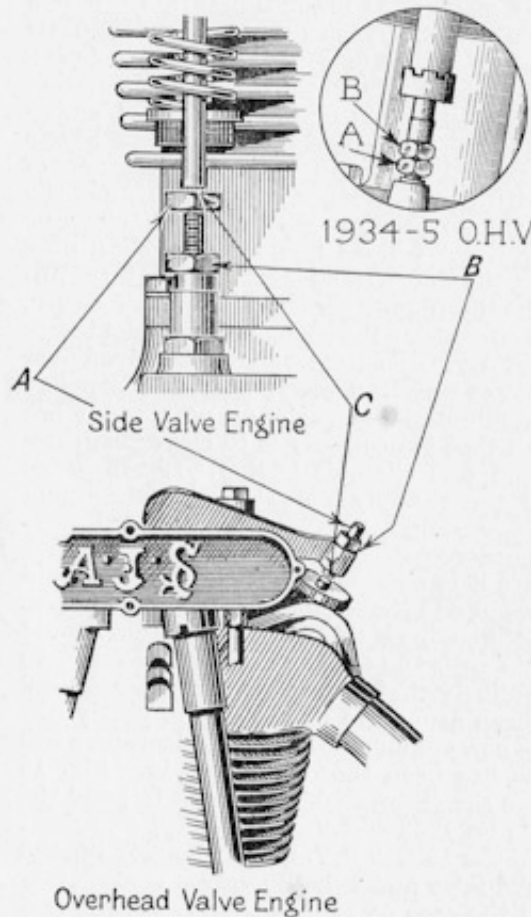

FIG. 16. VALVE CLEARANCE ADJUSTMENT (1932-3)
**Valve Clearances.** In order that the valves shall seat properly at all engine temperatures it is necessary that clearances should exist between the valve stems and the rocker arms or tappet heads, as the case may be, when the engine is warm. The clearance should be checked now and again with the feeler gauge on the magneto spanner, although it is unlikely that adjustment will be required unless the valves have been ground-in or the engine partly dismantled. In the case of a new engine, however, the clearances will increase until the engine has been thoroughly run-in. Fig. 16 illustrates the point where the clearance should exist (C) and the means of adjustment (A) on 1932–5 S.V., O.H.V. type engines. This clearance should, on the 1932–9 S.V. models be .004 in. and .006 in. in the case of the inlet and exhaust valves respectively with a *warm* engine. In the case of 1932–4 O.H.V. models and Models 35/6, 35/8, 35/18, 36/8, 36/18 (mechanical lubrication) the correct inlet and exhaust valve clearances with a *warm* engine are .006 in. and .008 in. respectively. On all other 1935–9 O.H.V. models (D.S.) the clearance recommended with the engine *cold* is the nearest approach to nil possible.
especially the exhaust valve, as well as loss of power. In the case of the the 1934-5 O.H.V. engines with mechanical lubrication the valve clearance adjusters are situated at the bottom of the push-rods, and to adjust the clearances it is necessary to telescope each push-rod cover, loosen lock-nut B (Fig. 16, inset), and adjust each hexagon A.